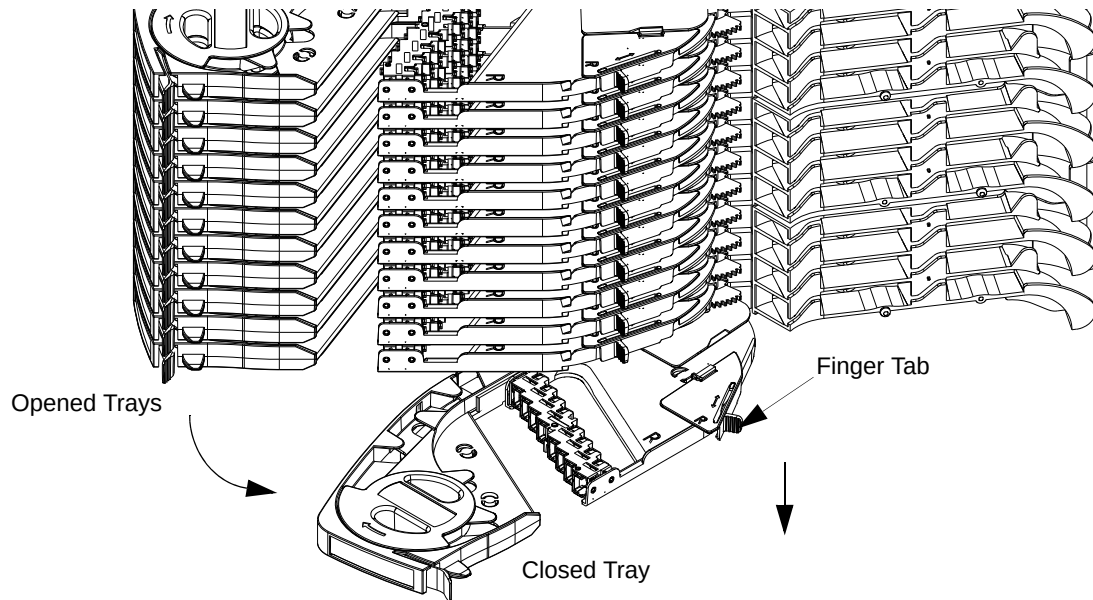

Figure 44 - Opening Trays
2. As an aid in cabling the first tray, open several or all trays above the first tray. (To open trays, pull slightly on the tray latches and then rotate the trays toward the inboard area of the ADF, as shown in Figure 44, on the following page.)